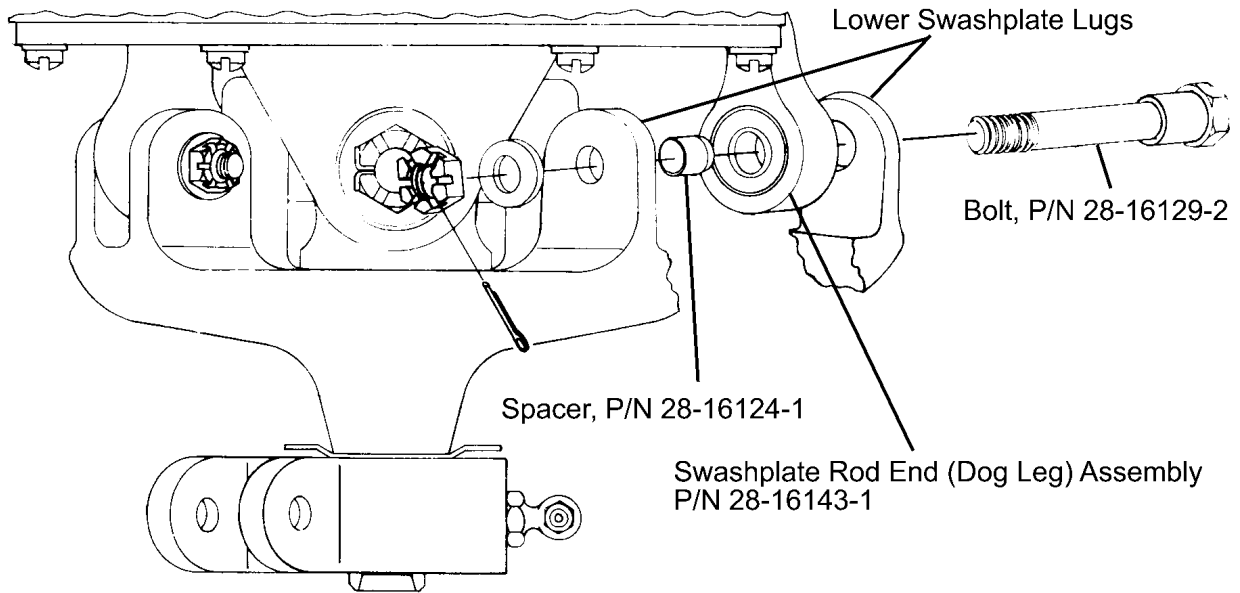

Figure 1. Swashplate Rod End (Dog Leg) Assembly Location
- B. Inspect the swashplate rod end (dog leg) assemblies for excessive bearing play/wear using the following procedure (Refer to Figure 1):
3. If the lower swashplate assembly has been removed, inspect the corresponding mounting lugs of the lower swashplate assembly for excessive wear/damage (Refer to Figure 1). Repair or replace the lower swashplate as applicable.
4. If the lower swashplate assembly has been removed, inspect the Bolts, P/N 28-16129-2, and Spacers, P/N 28-16124-1, for excessive wear/damage (Refer to Figure 1). Replace the bolts and/or spacers as required.